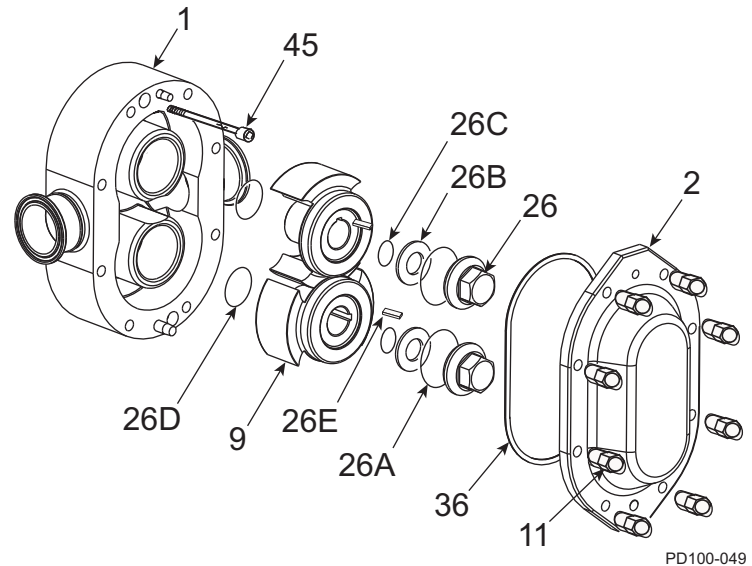
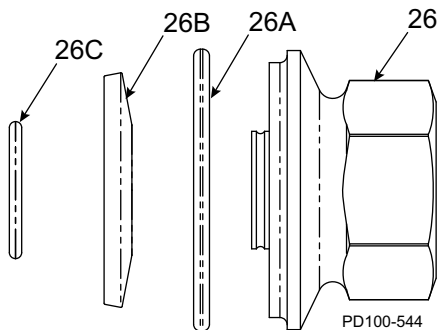
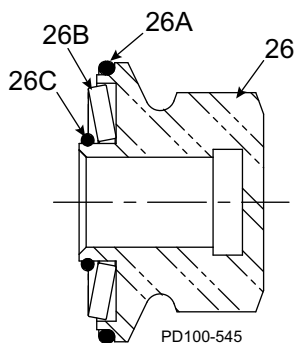

Figure 70 - Exploded View of Fluid Head
Figure 71 - Rotor Nut Assembly
Figure 72 - Cross-Section View of Rotor Nut Assembly, as Assembled
- Install the body (Figure 70, item 1) to the gear case assembly, aligning the body with the body studs. Avoid damaging the seals as the body is drawn over the shafts.
- Secure the body to the gear case using two cap screws (Figure 70, item 45).
- Lubricate the rotor hub O-ring (Figure 70, item 26D) with a lubrication compound compatible with the O-ring material and process fluid(s).
- Install new rotor hub O-rings (item 26D) into the groove on the rotor hubs.
- Install the rotors (item 9) onto the shafts.
- Align the keyways in the rotors with the keyways on the shafts and install the keys (item 26E).
NOTE: For rotor nut assembly detail, including orientation of the Belleville-style washer (item 26B), see Figure 71 and Figure 72 on page 50.
See Figure 70 on page 49, and Figure 71 and Figure 72 on this page.
1. Clean the cover O-ring (See Figure 70 on page 49, item 36) and install it in the groove in the cover.
3. Install the cover (See Figure 70 on page 49, item 2) on the pump body.
5. Tighten the cover securely using the cover nuts (See Figure 70 on page 49, item 11) and Table 12.